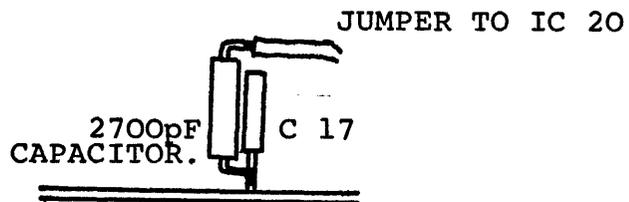

FIGURE 6
13. Install one 2200 pF capacitor (P/N 1877 1287) to each leg of C17 as shown in figure 6.